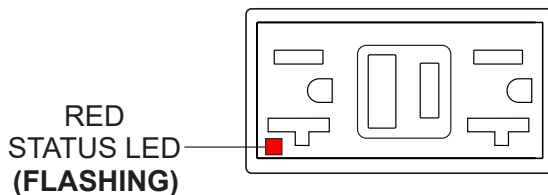

Figure 85. GFCI Receptacle (Red Flashing LED)
6. If the **status LED** (Figure 85) is **flashing (RED)**, **DO NOT** use the GFCI receptacle. Replace it immediately.